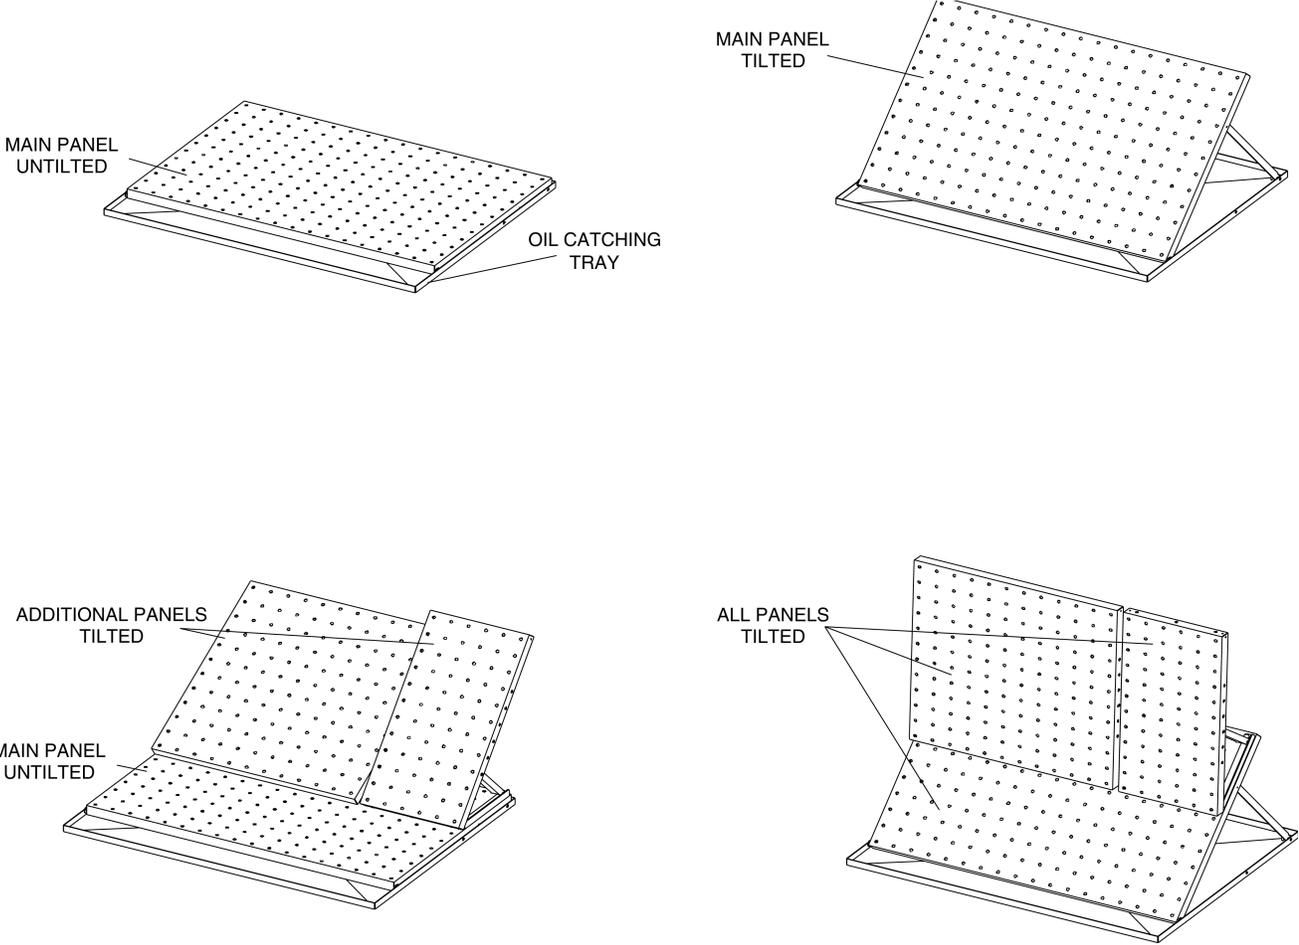

Figure 1-11. Various work surface configurations.
- 9. Figure 1-11 shows different ways of configuring your work surface. The main panel can be tilted to facilitate component mounting. Additional panels can be mounted on the main panel to increase the work surface area. They both can be tilted and used as control panels by mounting your hydraulic instruments (Pressure Gauges and Flowmeter) on them.